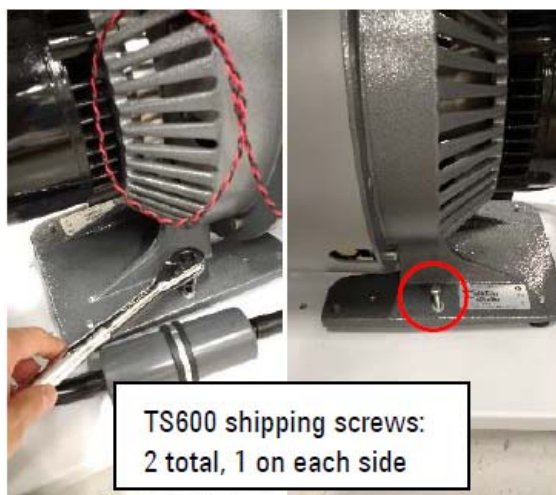

Figure 1-9 TS620 Shipping Locks Removal
- ❑ For the TS620 pump, use a 10 mm driver to remove the shipping bolts (one on each side of the pump base) (Figure 1-9).